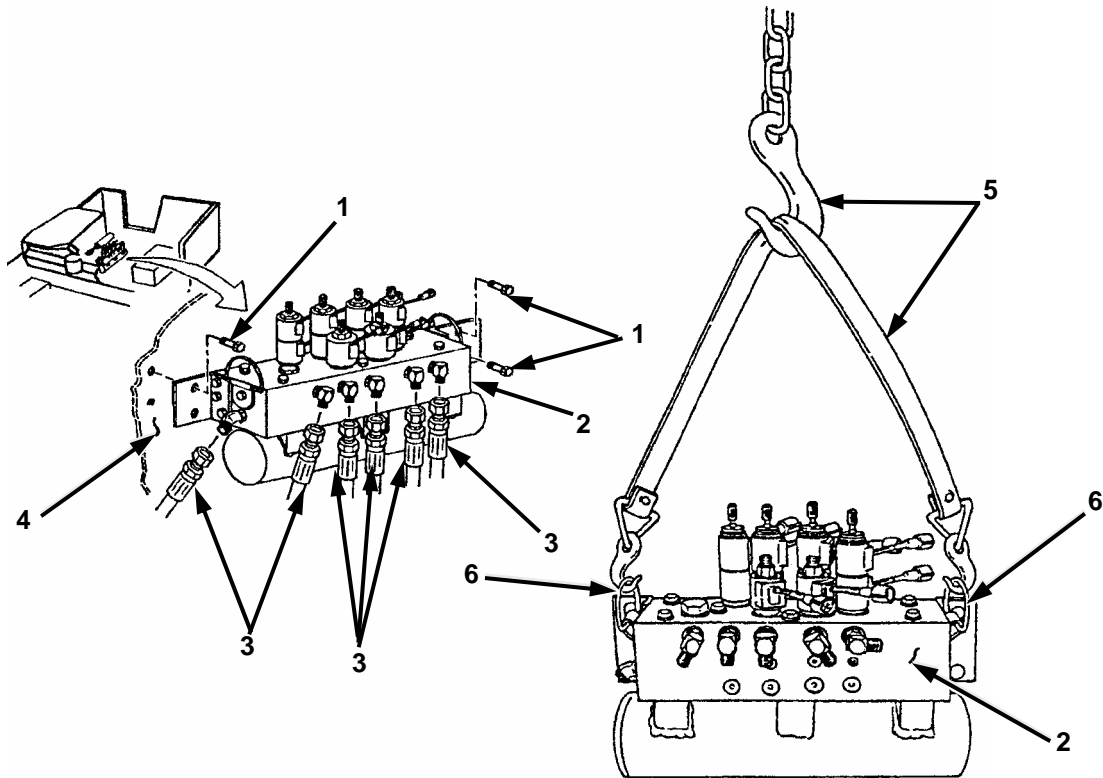

Figure 2-5. Track Adjuster Manifold.
- b. Disconnect six hoses (Figure 2-5, 3) from track adjuster manifold (2).